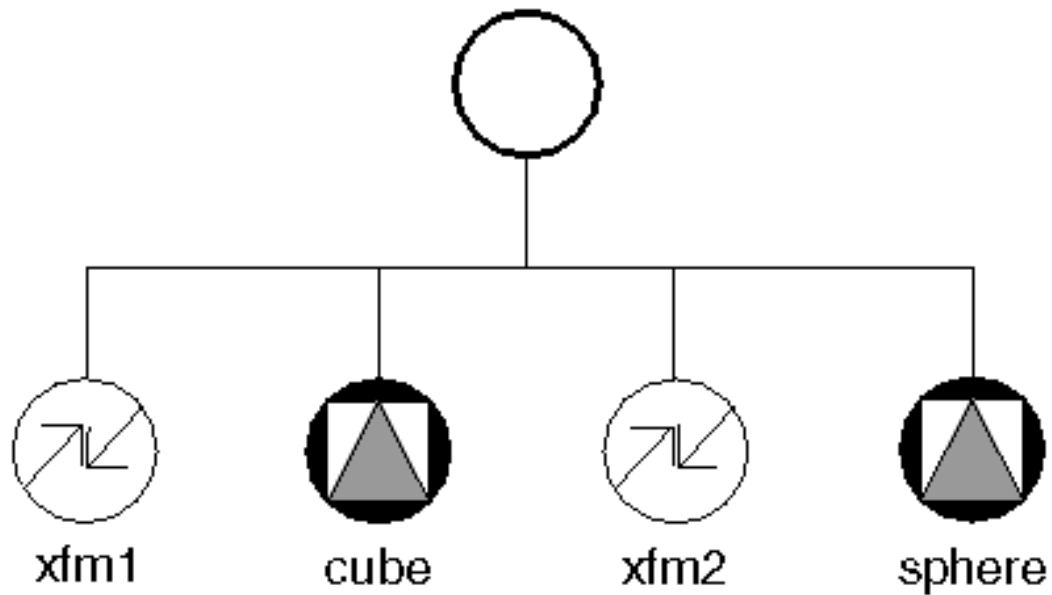

Figure 5.9 Cumulative Effect of Transformation Nodes
- 1 for `PER_VERTEX_INDEXED` (see Figure 5-9)
Unlike other property nodes, transformation nodes do not *replace* the current geometric transformation element in the action state. Instead, they have a *cumulative* effect on the current geometric transformation. In Figure 5-9, for example, the transformations in node *xfm1* are applied first, followed by the transformations in node *xfm2*.